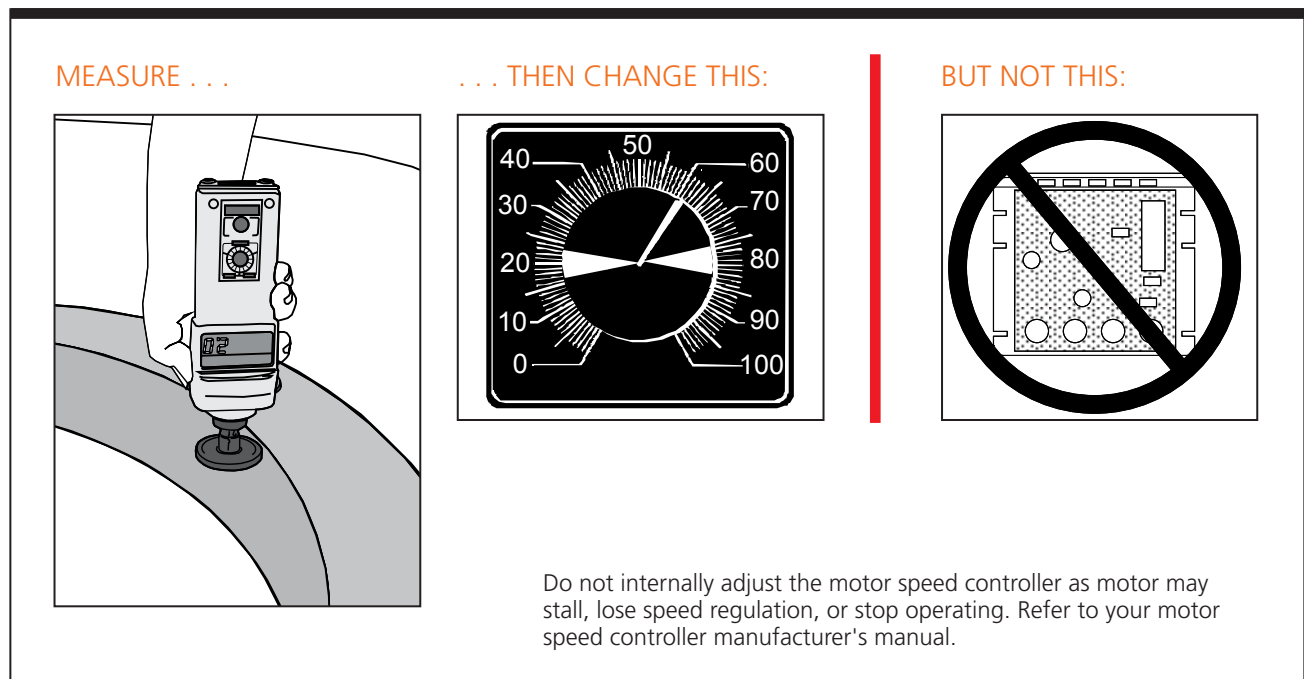

Figure 5-1. Measurement and Changes to Bowl Speed
- ➡ You will need a handheld tachometer (analog or digital) with a surface speed wheel indicator (see Figure 5-1).